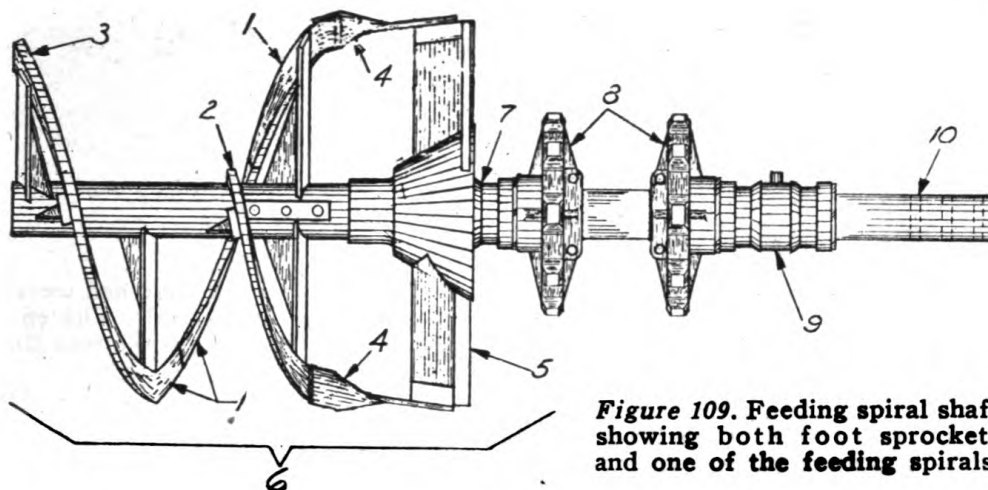

Figure 109. Feeding spiral shaft showing both foot sprockets and one of the feeding spirals.
The alloy steel wearing strips are easily replaceable, being held in place, by $\frac{5}{8}$ " flat head cap screws, to spiral welded unit. Strips (1), Figure 109 are made up right and left hand, but are interchangeable on the side of the machine to which they apply. End strips (2) and (3) may be identified and bolted in place by matching with holes in spiral welded unit. Scraper bars (4) may be readily bolted in their proper position along with scraper bars (5).
This is mounted in two ball and socket bearings (9), Figure 109 which are held to the lower end of the Boom structure by means of bolts through the bearing caps. The Feed Spirals (6) must be taken off in order to work on the bearings, or remove Footshaft (10). It is not necessary to remove the bearings from their mounted position to take out this shaft. The foot sprockets (8) are the split type. There is a bronze washer on the outside hub of the bearings (9) and a bronze washer which fits into the recessed end of the bearing hubs next to the sprockets. These washers can be replaced to eliminate end play.